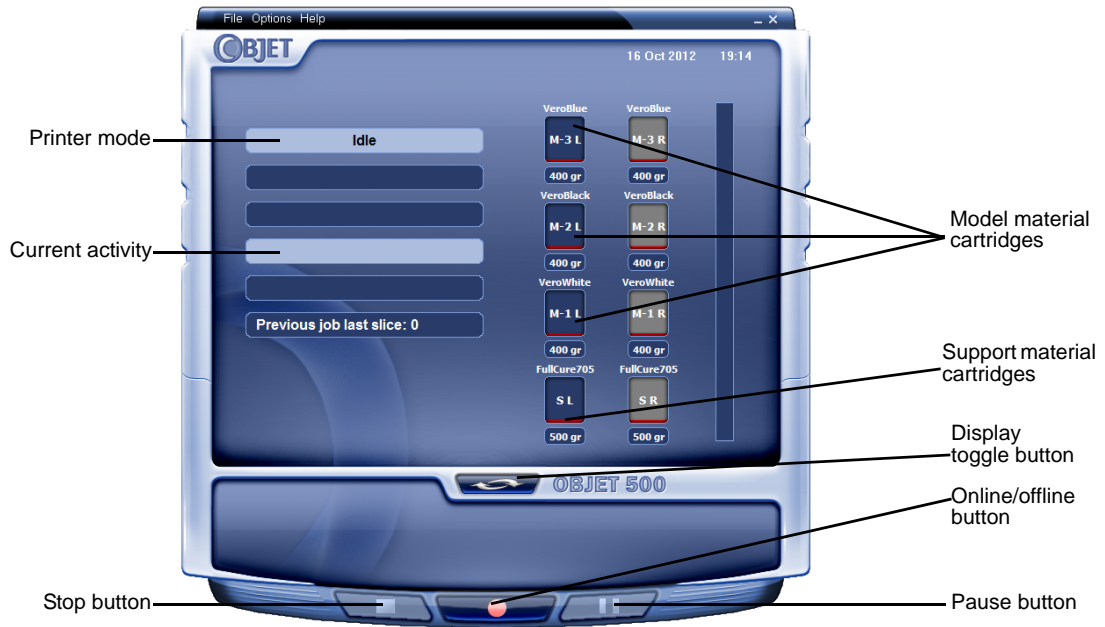

Figure 6-3: Objet500 - Connex 3 interface
Objet500 - Connex 3 printers use six cartridges of model material and two cartridges of support material, each weighing 3.6 kilograms when full. A graphical representation of the cartridges loaded and their current weight appears in the printer interface (see figure 6-3).
4. Check the printer interface to make sure that the new cartridge is detected and that its weight is displayed (see figure 6-3).
The color of the button changes from red to green (see figure 6-3). If there is a job in the Job Manager queue, it is sent to the printer.
For example, in figure 6-3:
The button changes from red to green (see figure 6-3 on page 6-6).